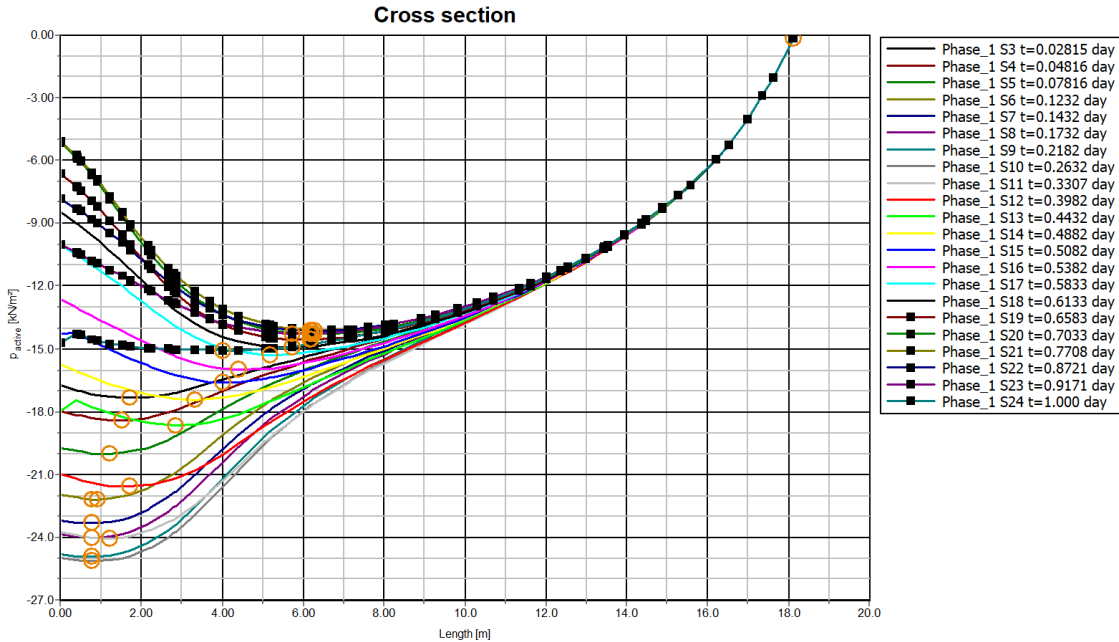

Figure 160: Active pore pressure variation in the cross section in Phase 1
4. Select Phase 1. The variation of the results in the cross section is displayed in a new window as shown in Figure 160 (on page 185).